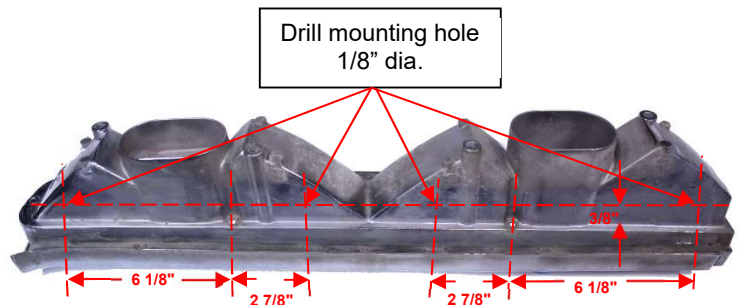

Figure 2
- 3.2. On the bottom side of each taillight housing, mark the location of the 4 – 1/8 inch mounting holes that will be used for attaching the LED panels inside the housing. These holes will be located on the lighting cell surface 3/8 inch from the lower flange where the lens mounting holes are located. Two of the mounting holes are 2 7/8 inches towards the housing center from the center of the lens mounting holes and two are 6 1/8 inches towards the housing ends from the center of the lens mounting holes. (See Figure 2) Mark the location of the 4 holes and drill them using an 1/8 inch drill bit.